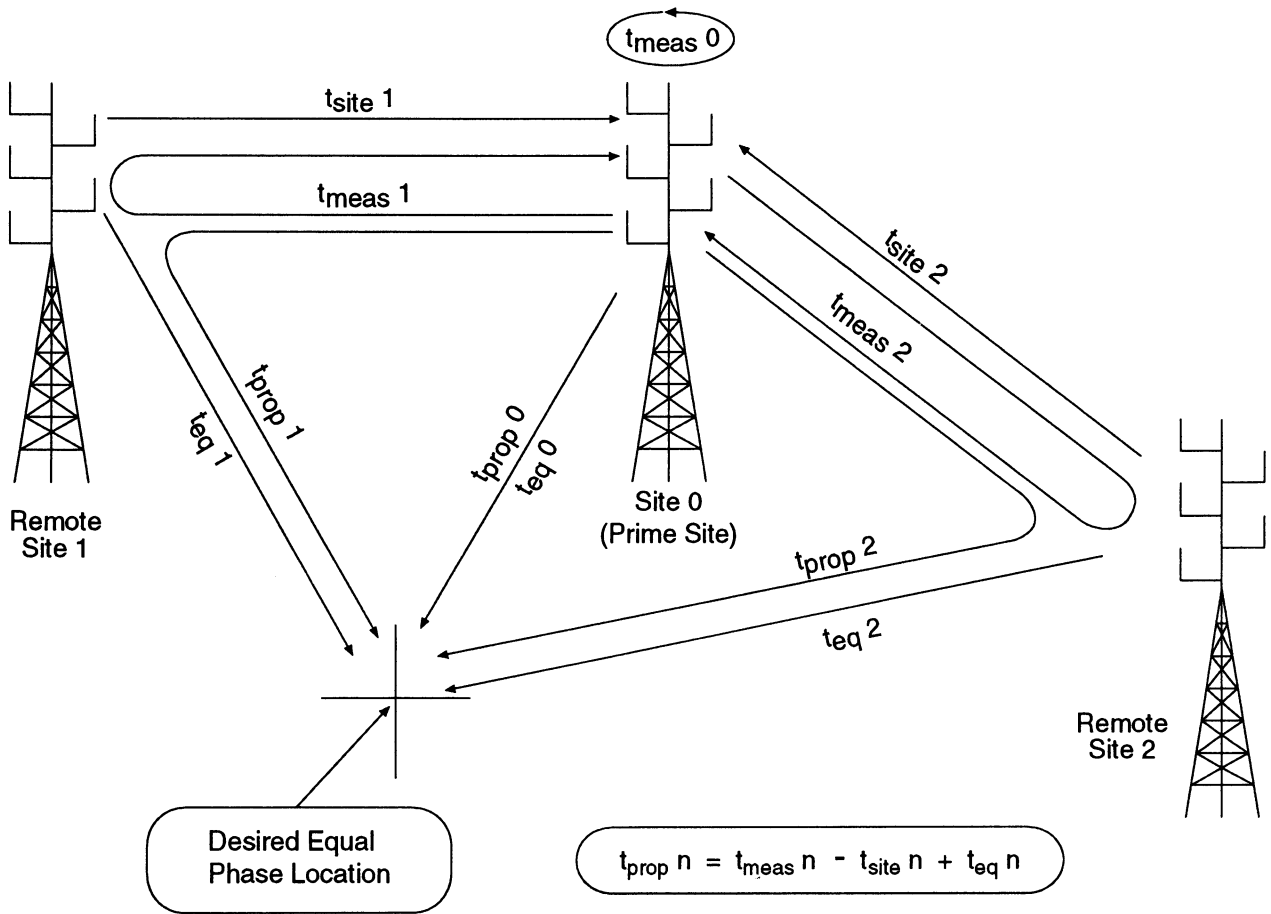

Figure 37. System Phasing Area
Step 44. For each site, use the following formula to compute the propagation time for the signal as it passes from the prime site, through site n , and to the desired equal phasing area. Refer to Figure 37 for an example phasing area.